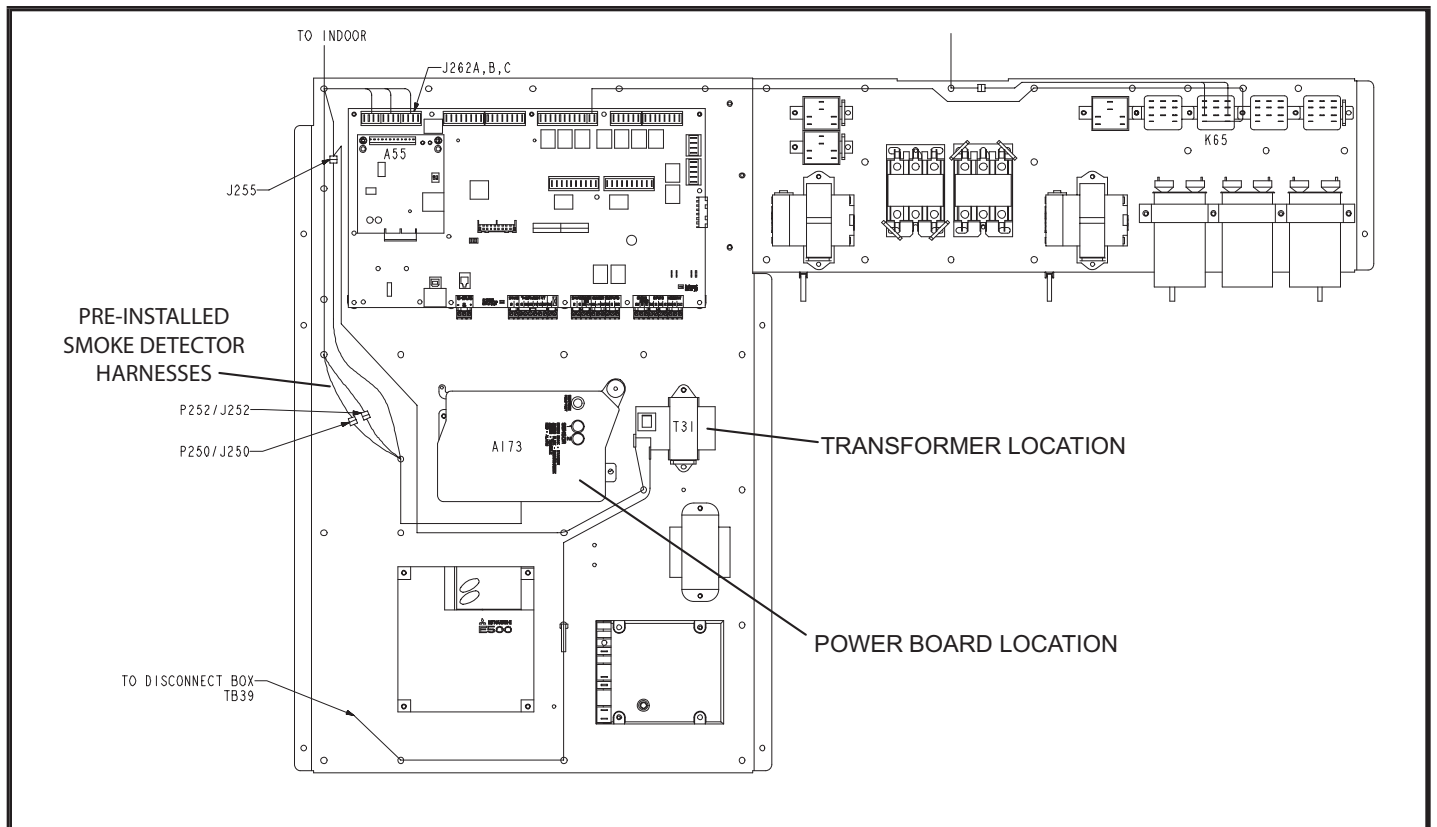
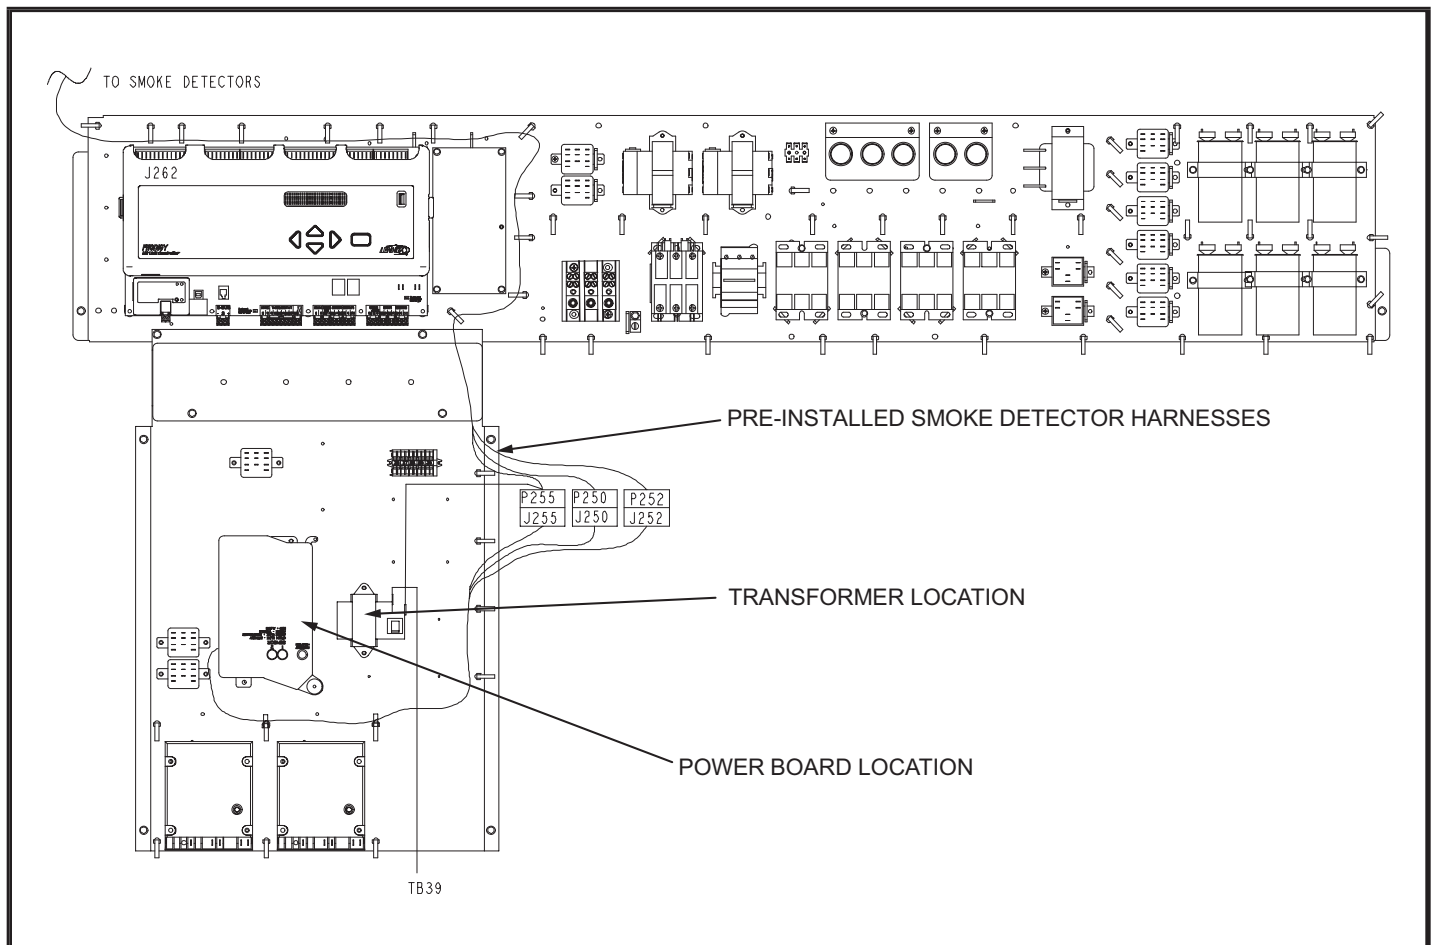
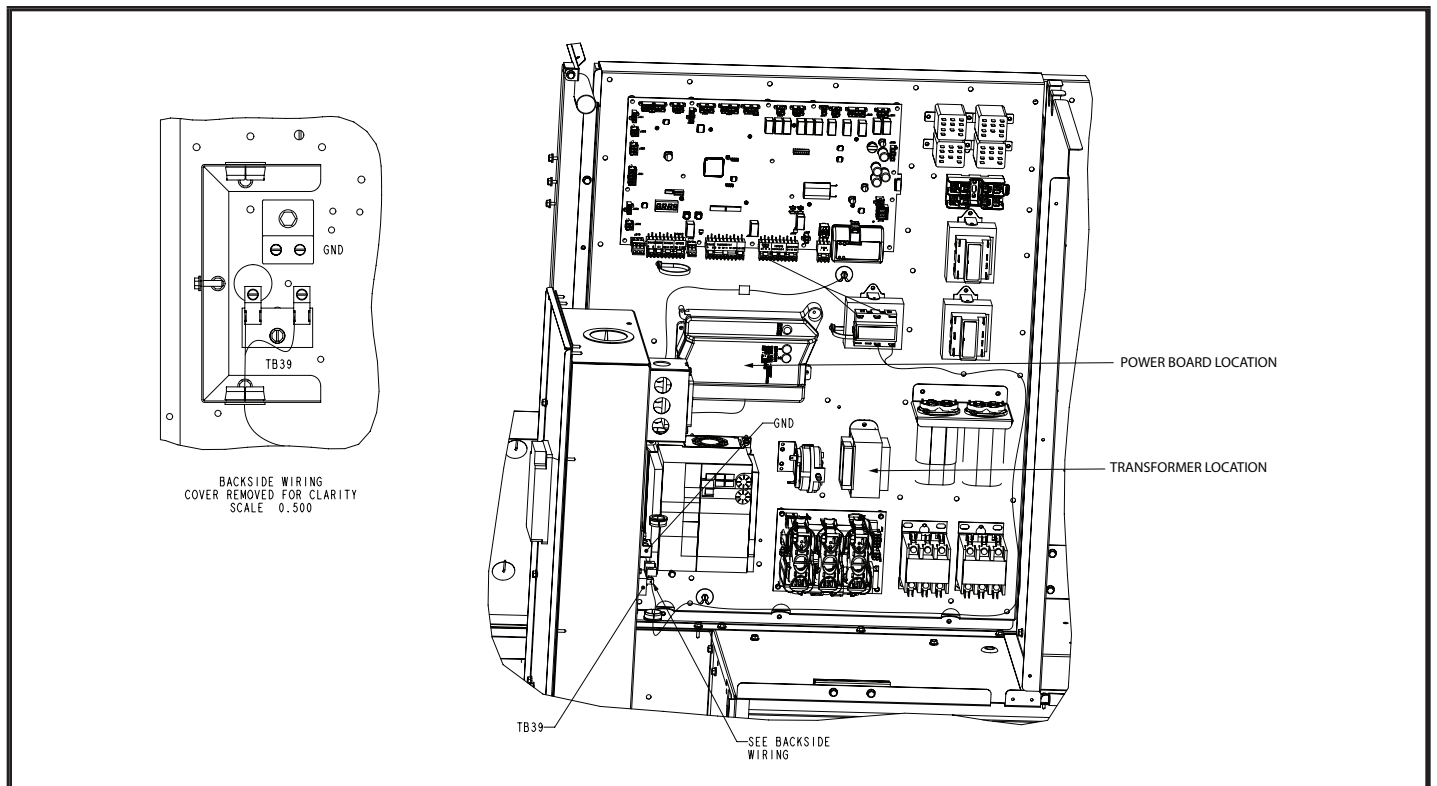

FIGURE 4 Power Board / Transformer Locations On M3 Boards (B-box)
FIGURE 5 Power Board / Transformer Locations On M3 Boards (D-box)
FIGURE 11 Power Board / Transformer Locations On M4 Boards (B-Box)
Use manufacturer's instructions provided with smoke detector to install sensor(s) and power board. Refer to FIGURE 4 for B-box power board location and FIGURE 5 for D-box power board location. Secure control board to control panel with #8-32 screws provided.
Mount transformer to control board panel next to the smoke detector power board. See FIGURE 4 (M3 Board) and FIGURE 11 (M4 Board) for B-Box. See FIGURE 5 (M3 Board) and FIGURE 12 (M4 Board) for D-Box.
- 2 - Route T31 transformer harness from line side of transformer to TB39 located on back of main disconnect box (see FIGURE 6 and FIGURE 7). Connect load side of transformer to smoke detector control board power harness (see FIGURE 4 for B-box and FIGURE 5 for D-box).